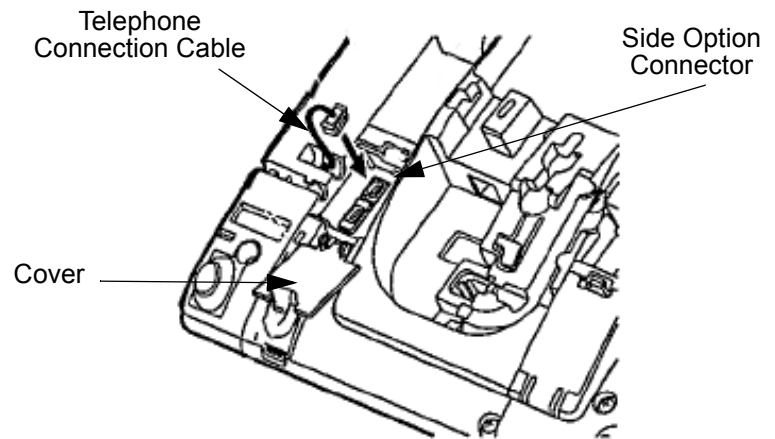

Figure 5-88 Install the 8LK-L UNIT Cable
9. Connect the cable from the 8LK-L UNIT to the side option connector (see Figure 5-88 Install the 8LK-L UNIT Cable) on the multiline terminal and close the cover.